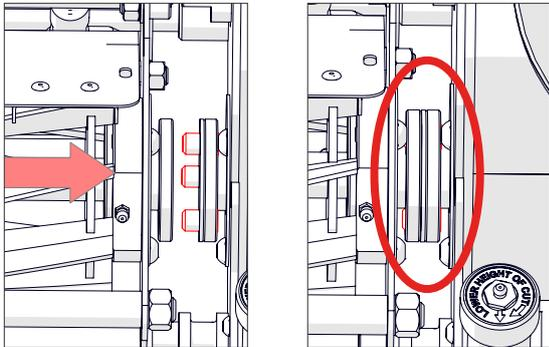

Fig.8F - Lower the new cassette in and slide across, engaging with three pins.
7. Slide the cassette to the L/H of the machine until there is full engagement with the three pins of the drive coupling (Fig.8F). The cylinder may need slight manual rotation to align with the pins. ⚠